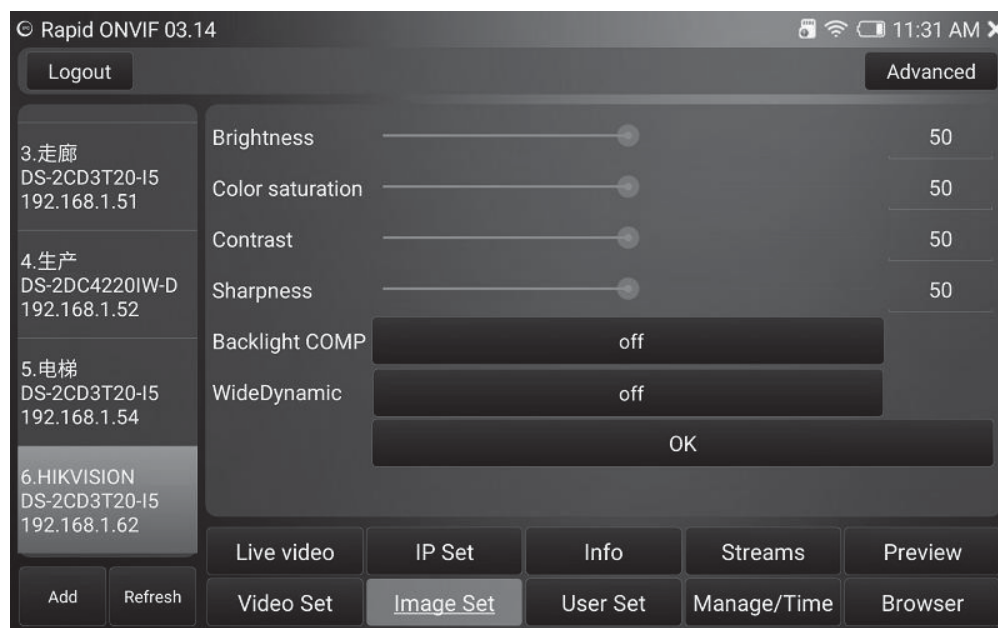

Figure 22
6) Image setting, touch 'Image Set' button to enter image setting interface, you can set the image parameters including brightness, saturation, contrast ratio, sharpness, etc, after setting touch 'OK' button to apply settings, as shown in Figure 22